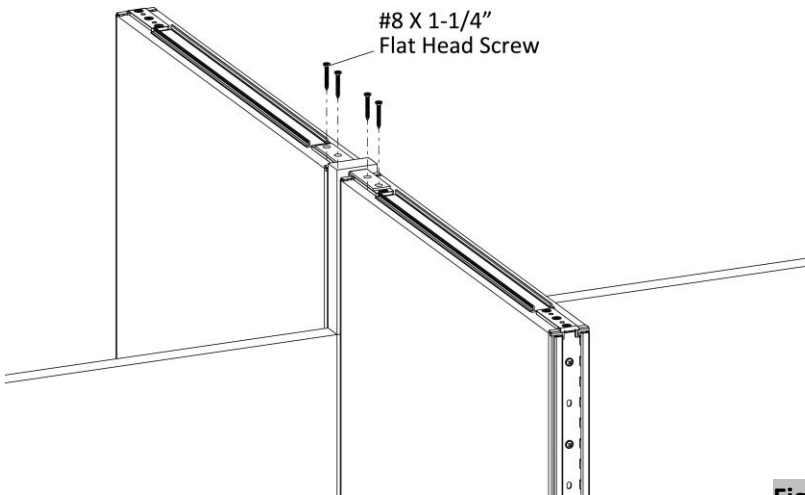

Figure 9
- 18. Drive four #8 x 1-1/4" Flat Head Screws through the holes in the gallery panel top bracket into the panels, (Figure 9).